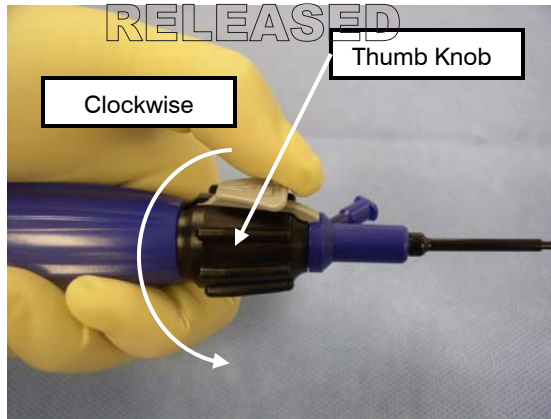

Figure 5: Thumb Knob
- h. Deploy the stent by rotating the thumb knob clockwise with the thumb and index finger while holding the handle in a fixed position. (Refer to **Figure 5**)